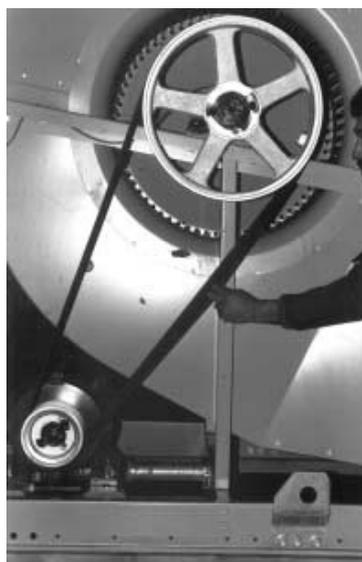

Figure 6. Fan Belt Adjustment
- a) the deflection amounts 10 mm/m free belt length (see figure 6)